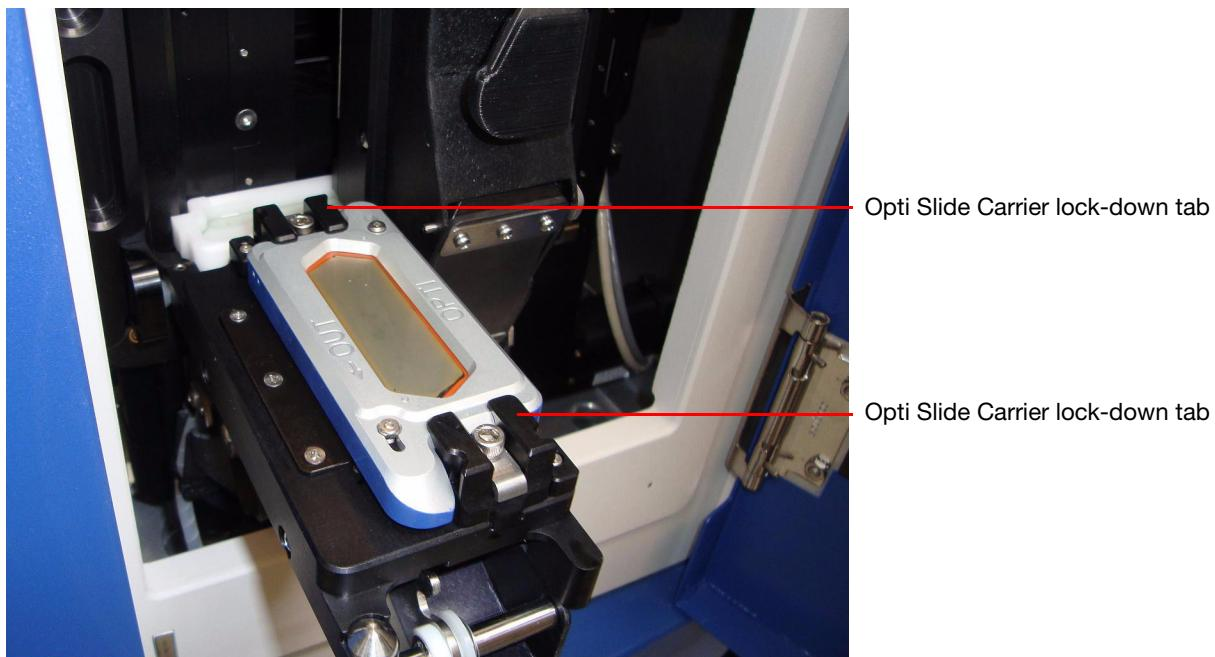

Figure 22 SOLiD™ Opti Slide Carrier lockdown tabs.
- c. Slide the two SOLiD™ Opti Slide Carrier lock-down tabs on the flowcell inward until they are positioned over and flush with the carrier (see Figure 22).